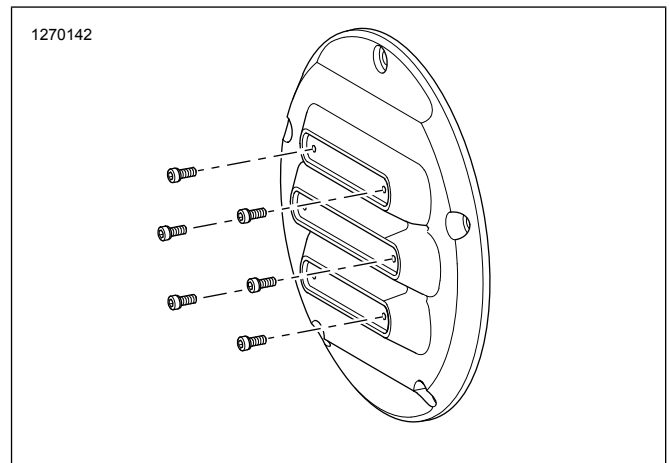

Figure 3. Decorative screws
6. **Kits: 25700768, 25700822, 25700825, 25700826 only:** See Figure 3. Install decorative screws in cover.